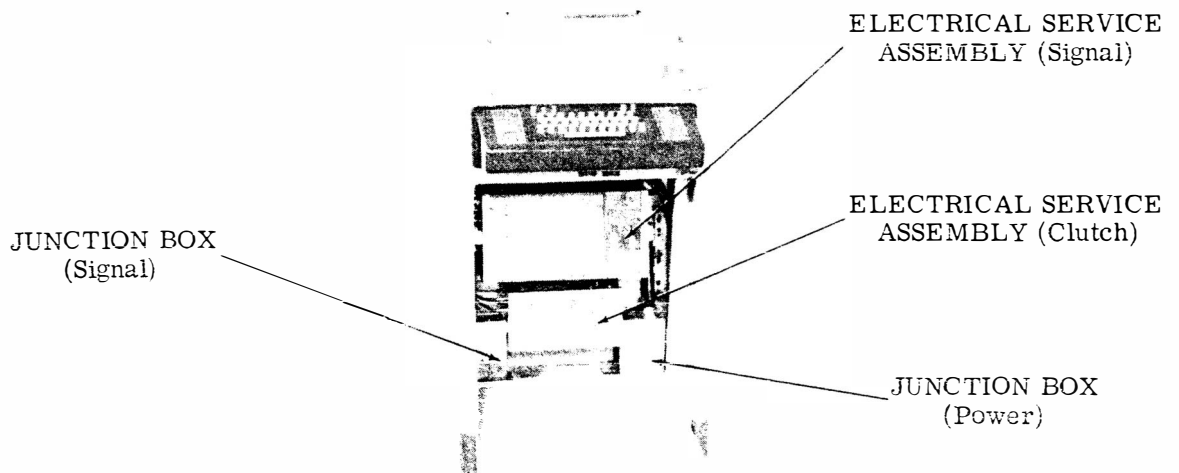

Figure 2 - Floor Model Keyboard Send Receive (KSR) Set
B. Keyboard Send-Receive (KSR) Set (Figure 2)